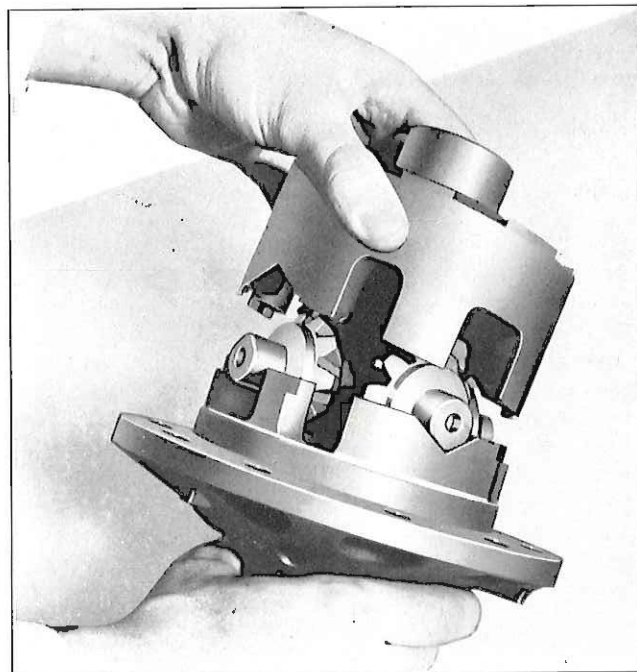

Fig. 8—Assembling Differential Case
6. Install remaining case-half while holding side gear retainer and clutch plate pack through the axle shaft bore as shown in Fig. 8. Make